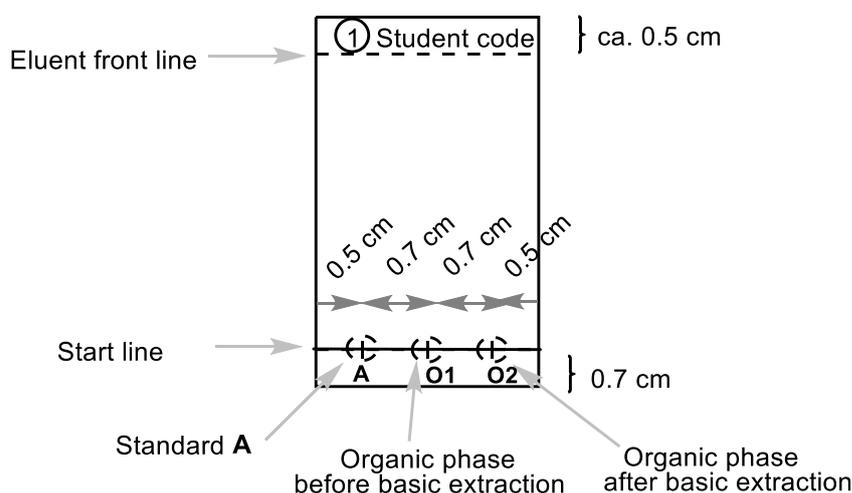

Figure 2. Instructions for the TLC plate preparation.
- Prepare your TLC plate. Check it before use. Unused damaged plates will be replaced upon request without penalty. Use a pencil to draw the start line and mark the positions for spotting the samples. Write number **1** in a circle and your student code on the top of the TLC plate as shown in Figure 2. Dissolve the given sample of 2-acetonaphthone in a vial (**Standard A**) in ca. 2 cm³ of ethanol (about 1 full glass Pasteur pipette). Mark three spot positions and label them **A**, **O1**, and **O2**. Spot 1 μl (one mark of the 5 μl capillary spotter) of standard **A** and the combined organic phase from step II.3 (**O1**). You will add spot **O2** later.